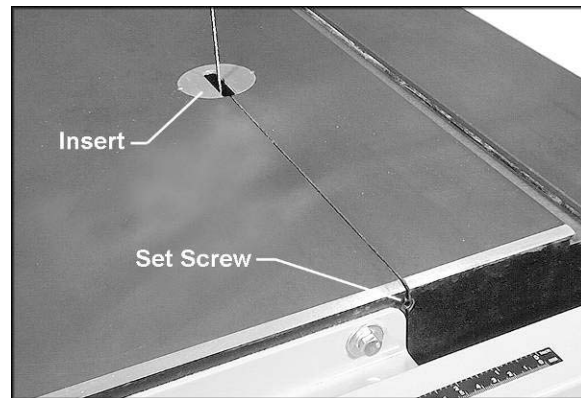

Figure 13
3. Remove the table insert (Figure 13).
4. Remove the set screw at the end of the slot (Figure 13) with 4mm (or 5/32") hex wrench.